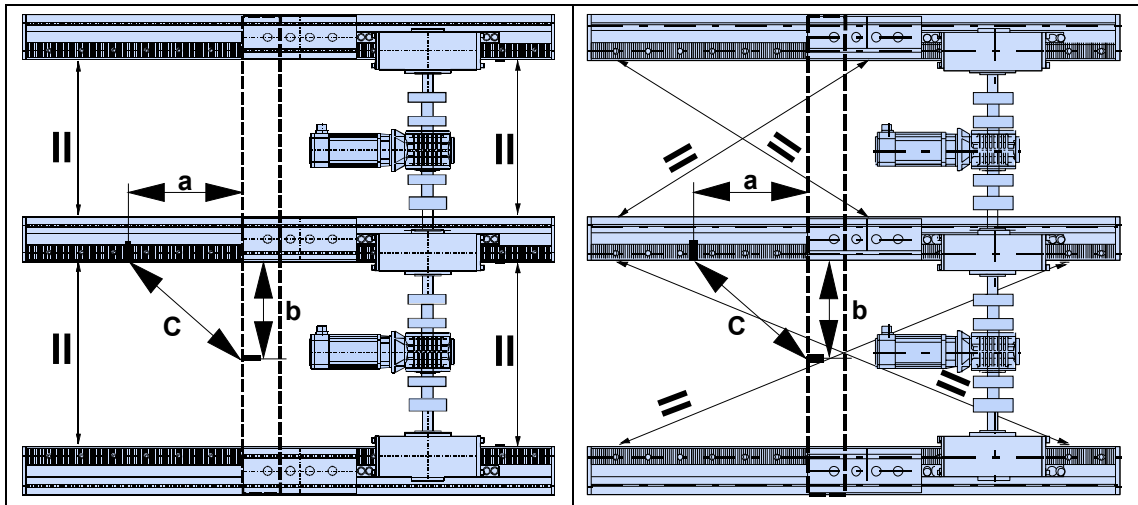

Fig. 3-2: Alignment of a triple axis
11. A third axis (for three-axis actuators) is aligned afterwards with the second axis. In order to verify the correct alignment, align the third axis to the first axis. [Figure 3-2]